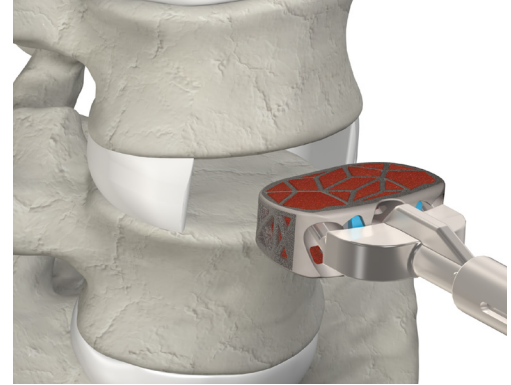

Figure 18
- ▲ Insert the implant into the disc space (Fig. 18 and 19). Use fluoroscopy to confirm proper position and placement of the implant.